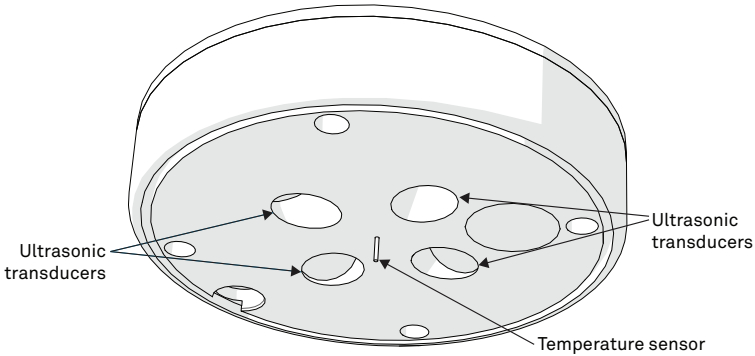

Figure 12 Temperature needle and ultrasonic transducers
NOTE: Do not allow water to enter the ultrasonic sensors (Figure 12). Water may corrode the metal parts inside the sensors and ruin them. Do not touch the temperature sensor when cleaning because it is very delicate and can be damaged if pushed into the ATMOS 41 body.
- **DO NOT** touch the temperature sensor needle (Figure 12).
- Avoid more than light pressure on the sonic transducers (Figure 12).
- 2. Make sure nothing is obscuring the temperature sensor or the sonic transducers shown in Figure 12 (cobwebs, leaves, wasp nests, etc.).
- c. Ultrasonic transducer openings (Figure 12)